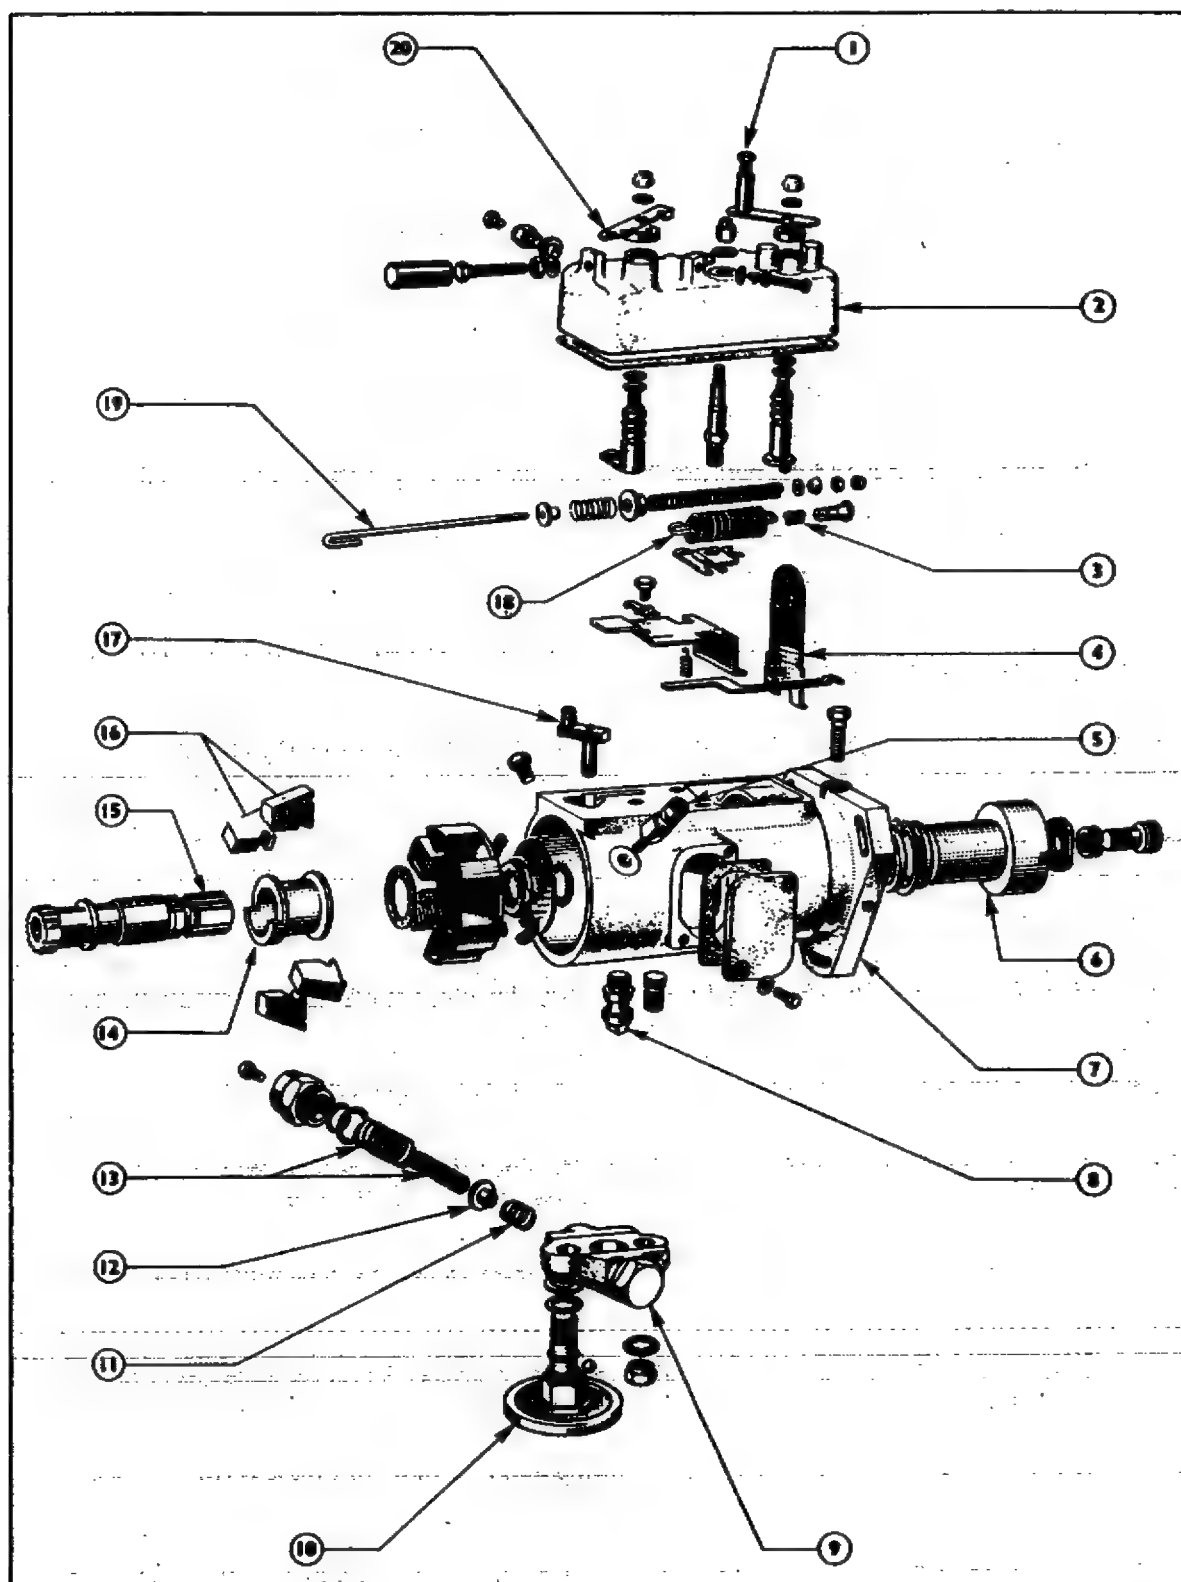

Fig. 78
30. Unscrew the drive plate screws, with a 5/16 in. AF bi-hexagon socket, holding the drive plate with spanner Tool No.CA.112, and remove the drive plate (see Fig. 78).